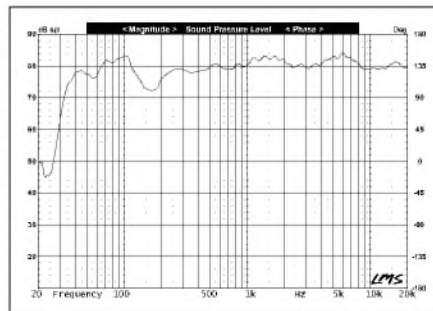
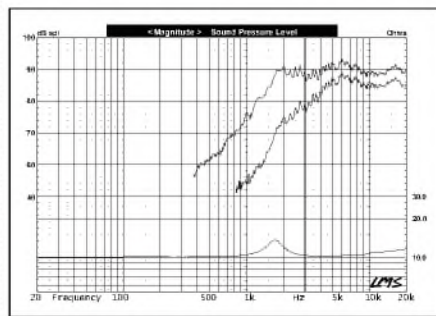
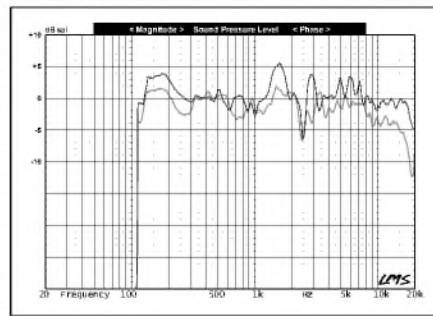

FIGURE 10: Full range, active crossovers.
FIGURE 9: Gated tweeter response. Tweeter with active crossover and 4.7 series resistor. Tweeter impedance including 4.7 series resistor.
FIGURE 11: Left speaker measured from left and right listener's ear.
*Figure 9* is the tweeter response with and without the active crossover. *Figure 10* shows the complete system including subbass and active crossover, 0.1 octave smoothing. *Figure 11* measures my own setup inside the house. My computer meets the wall at a  $45^\circ$  angle. Notice the dip at 170Hz has become a peak!